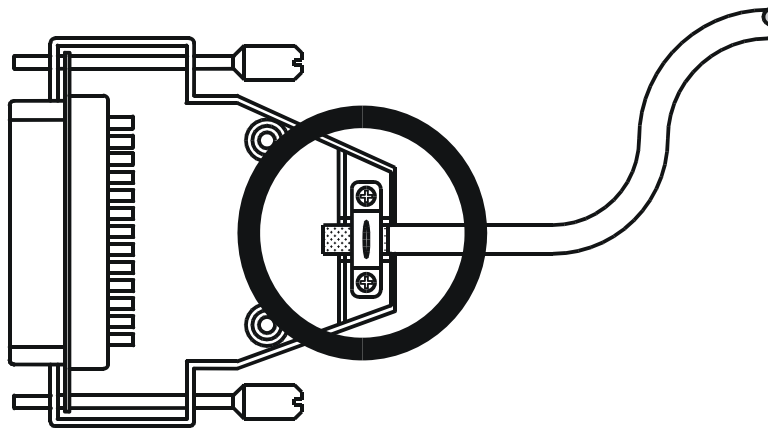

Fig. 2: Shielding of SUB-D connectors in conformity with EMC standards
- Only use metallized connectors, e.g. SUB-D with metallized housing. Make sure that the strain relief is directly connected with the housing here as well (see Fig. 2).